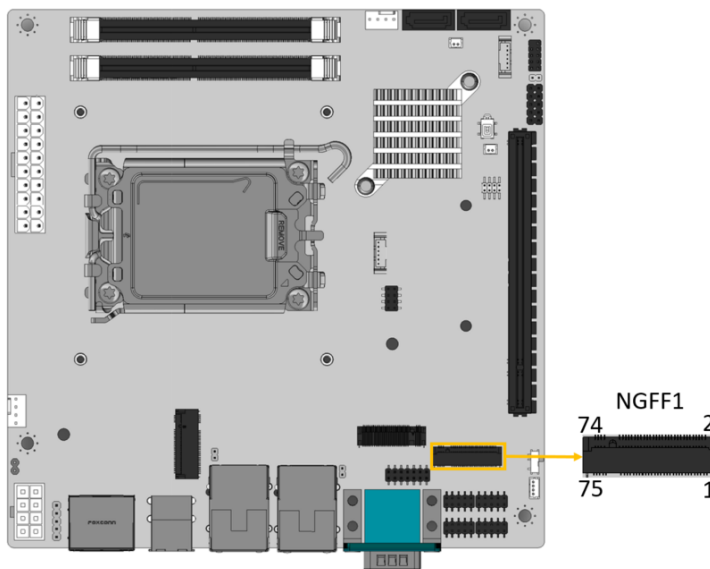

Figure 3-15: M.2 M-key Slot Location
- CN Location:** See **Figure 3-15**